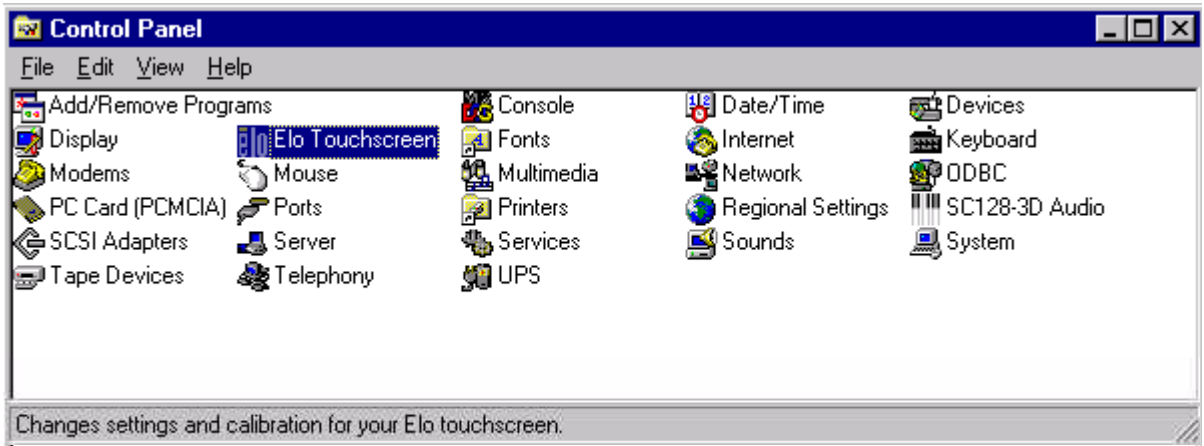

FIGURE 19. Control Panel Example
- 8.9 On the 'Control Panel' dialog select the 'ELO Touchscreen' icon, then press Enter. See Figure 19.